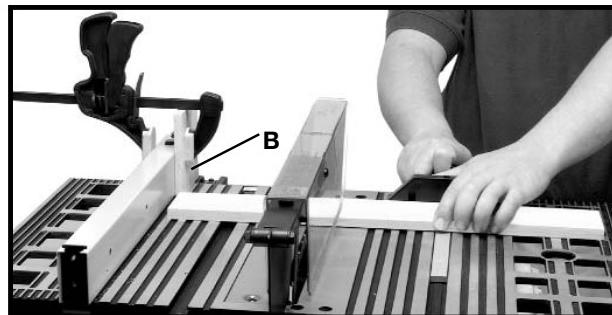

Fig. 42B
When cross-cutting a number of pieces to the same length, a block of wood (B) Fig. 42B can be clamped to the fence and used as a cut-off gage as shown in Fig. 42B. It is important that this block of wood always be positioned in front of the saw blade as shown. Once the cut-off length is determined, secure the fence and use the miter gage to feed the work into the cut. This block of wood allows the cut-off piece to move freely along the table surface without binding between the fence and the saw blade, thereby lessening the possibility of kickback and injury to the operator.
**CAUTION** **WHEN USING THE BLOCK (B) FIG. 42B, AS A CUT-OFF GAGE, IT IS VERY IMPORTANT THAT THE REAR END OF THE BLOCK BE POSITIONED SO THE WORK PIECE IS CLEAR OF THE BLOCK BEFORE IT CONTACTS THE BLADE.**